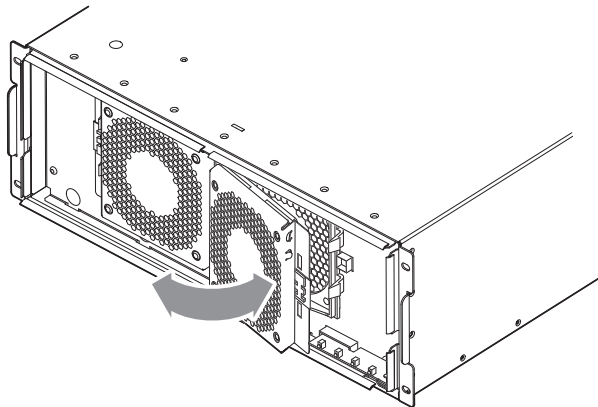

Figure 11-2. Detach the Fan from the Chassis
- 4 Swing the fan outward to unhook the opposite side from the retaining tabs (Figure 11-2).